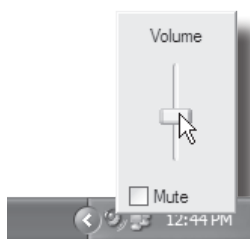

Figure 10
4. Set the output volume by clicking the speaker icon in the bottom right hand corner (Figure 10).